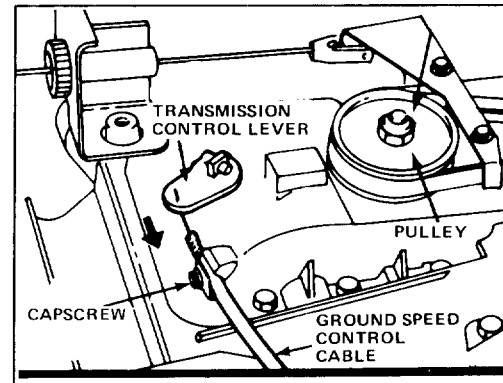

Figure 21
2. Remove (2) capscrews and lift off transmission cover (Fig. 21).
3. **ADJUSTMENT** (Fig. 21)—Loosen cable clamp screw until cable conduit slides. Push transmission control lever toward cable clamp screw until control lever "snaps" into neutral detent. Pull cable to remove slack and tighten clamp screw.
**4. CHECK ADJUSTMENT**—Assure ground speed control is in "N" and pull mower backward. Pulley should not rotate (Fig. 21). If pulley does rotate, readjust for neutral; refer to step 3.